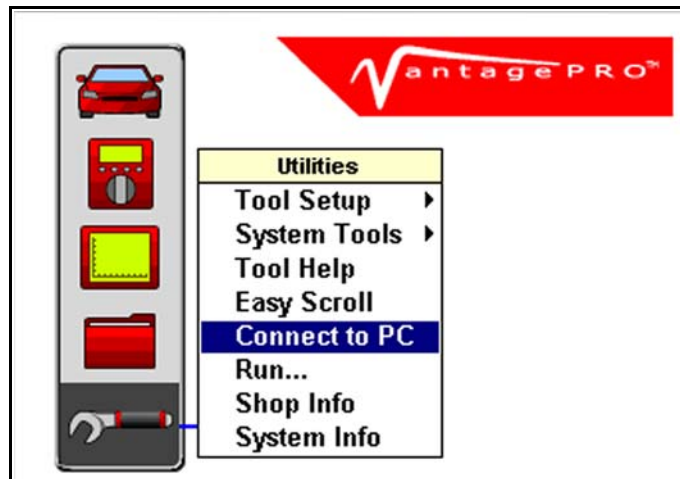

Figure 2-26 Sample VantagePRO utilities menu
2. From the Main Menu, navigate to **UTILITIES > Connect to PC** (Figure 2-26).